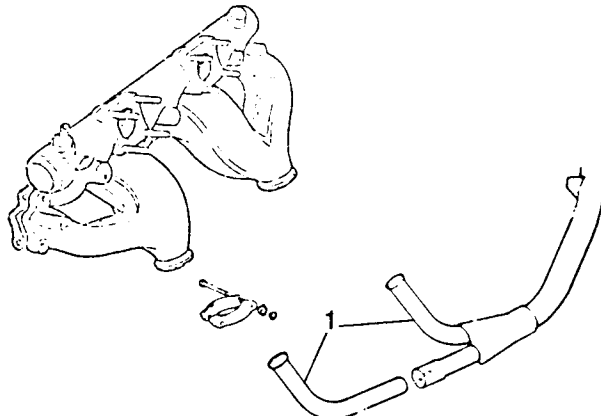

Fig B4.75
- (13) Refer to Fig B4.75. Position and connect the exhaust downpipes (1) to the manifold.